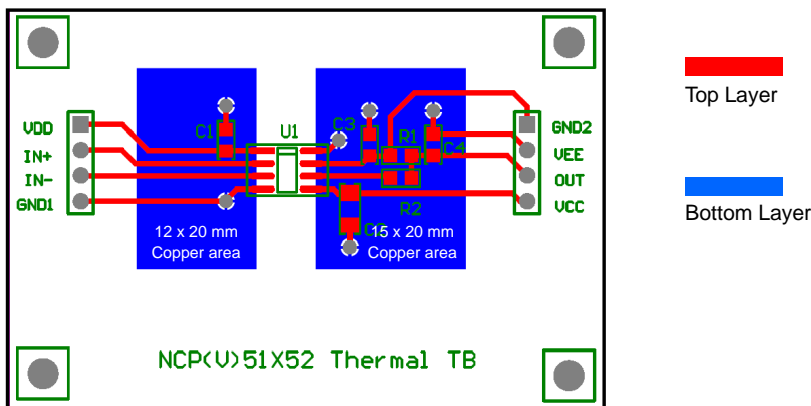

Figure 5. Reference Layout for the Type–B
8. As specified for a reference layout shown in Figure 5. The DUT is mounted on a 60 x 40 x 1.6 mm FR4 substrate with an additional heat spreading copper of 240 mm²/300 mm² (Primary/Secondary). The copper thickness is 1 oz and test conditions is under natural convection or zero air flow.